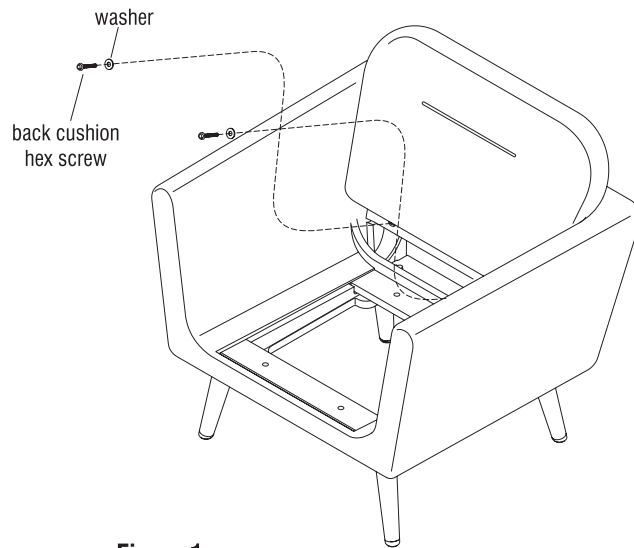

Figure 1
6. Align the chair and cushion screw holes and re-install the hex screws and washers previously removed in Figure 1.